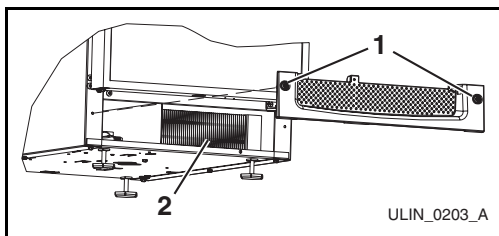

Figure 8
2. Loosen two screws (**Figure 8, 1**) completely.
4. Clean the condenser coil (**Figure 8, 2**) using a soft brush with a “combing” action or vacuum cleaner. Do not touch the condenser coil.